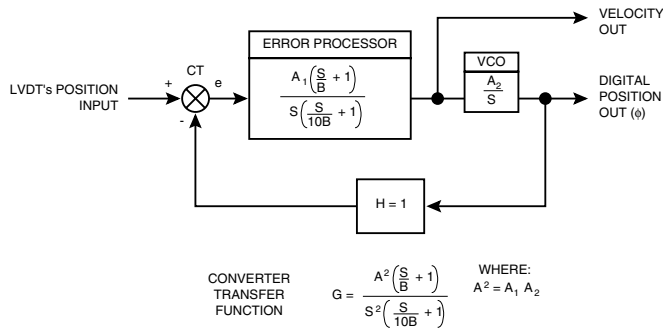
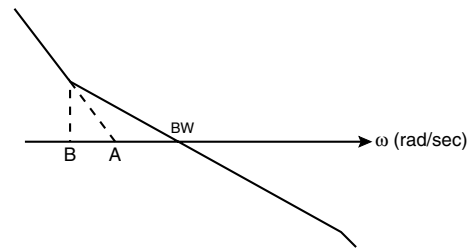

FIGURE 4. CONTROL LOOP BLOCK DIAGRAM
FIGURE 5. OPEN LOOP BODE PLOT
The Velocity output (VEL) from the DTC-19300 is a DC voltage proportional to the angular velocity ($dl/dt = dd/dt$). The velocity is input to the second integrator, as shown in FIGURE 4. Its linearity is dependent solely on the linearity of the voltage controlled oscillator (VCO). An open loop Bode plot is shown in FIGURE 5. Bandwidth (BW) and the acceleration constant (Ka) can be determined by the following formula: